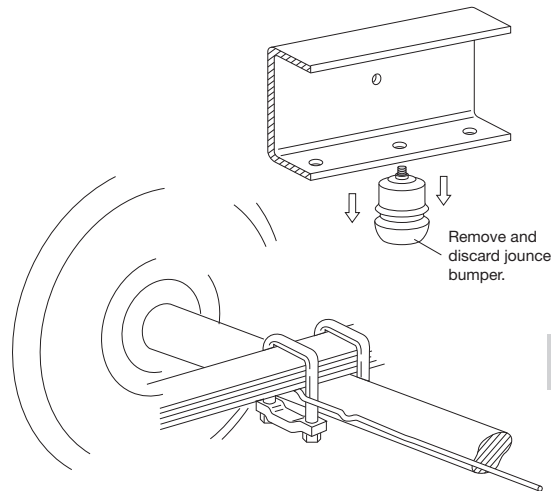

fig. 4
1. Remove the jounce bumper (Fig. 4). The air springs will mount in place of the jounce bumper.